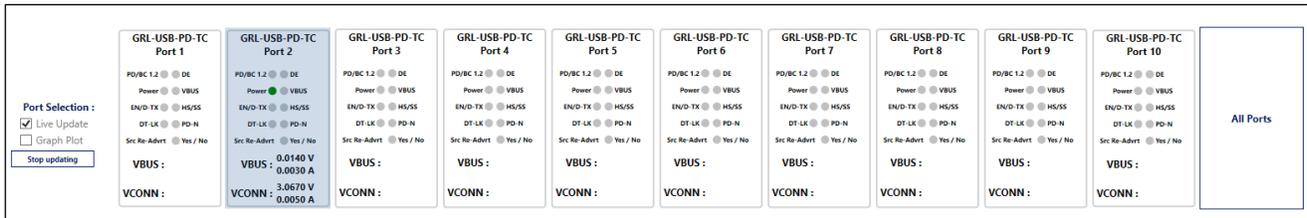

Figure 36. Select Port for VBUS Load Test
1. Select the port which you are going to perform the VBUS load test (as shown in Figure 36 below) and connect the USB Power Delivery source DUT with a USB Type-C cable to the GRL-USB-PD-TC tester cards.